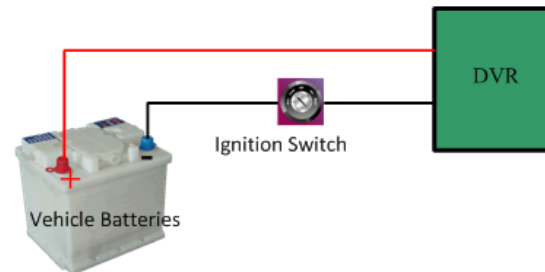

Fig 2.5 Negative pole ignition switch
- (2) Negative pole ignition switch: ignition switch is connected to the negative pole of vehicle battery and supply low signal (as in Fig 2.5)